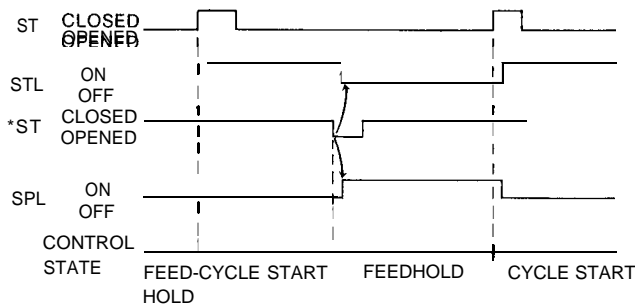

Fig. 21.2 Timing Chart for Input of Cycle/Start (ST), Stop (* SP), and Output of Cycle Start (STL), Feedhold (SPL)
- (2) When the following state is entered after cycle start, the control completes operation control, and turns off the STL output.
- (3) When the feedhold input contact “ * SP” is opened during automatic operation, the automatically controlled motions, etc. are interrupted, and at the same time the cycle start output STL is turned off and the feedhold output SPL is turned on. While a block of thread cutting instruction is being executed, the feedhold input is disregarded.
- (4) When the feedhold input contact * SP is closed, and cycle start input contact ST is closed and opened, temporary stop SPL is turned off, and automatic operation is restarted. The cycle start output STL is turned on also.
Timing chart for input of cycle start (ST), feedhold (* SP), and cycle start (STL) and temporary stop (SPL) is shown in Fig. 21.2.